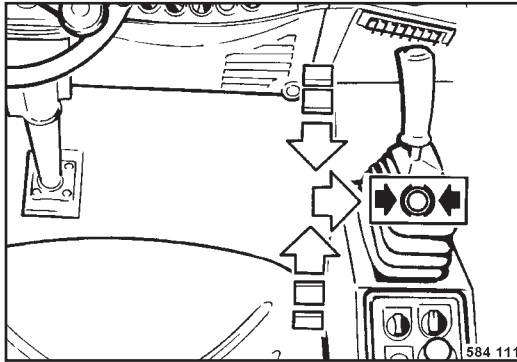

Fig. 52
- Return the travel lever (Fig. 52) slowly to “neutral” -position and engage it to the right parking brake position.